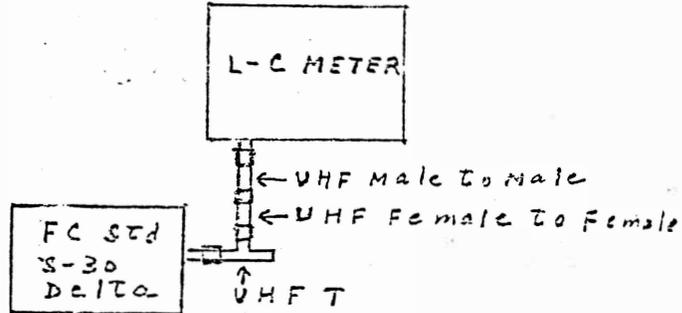

Fig. 1
102 CONNECT - FC std S-30 Delta to L-C METER UNKNOWN L OR C (see Fig. 1)
- CONNECT - S-30 DELTA to other end of UHF T adapter (see Fig. 1)